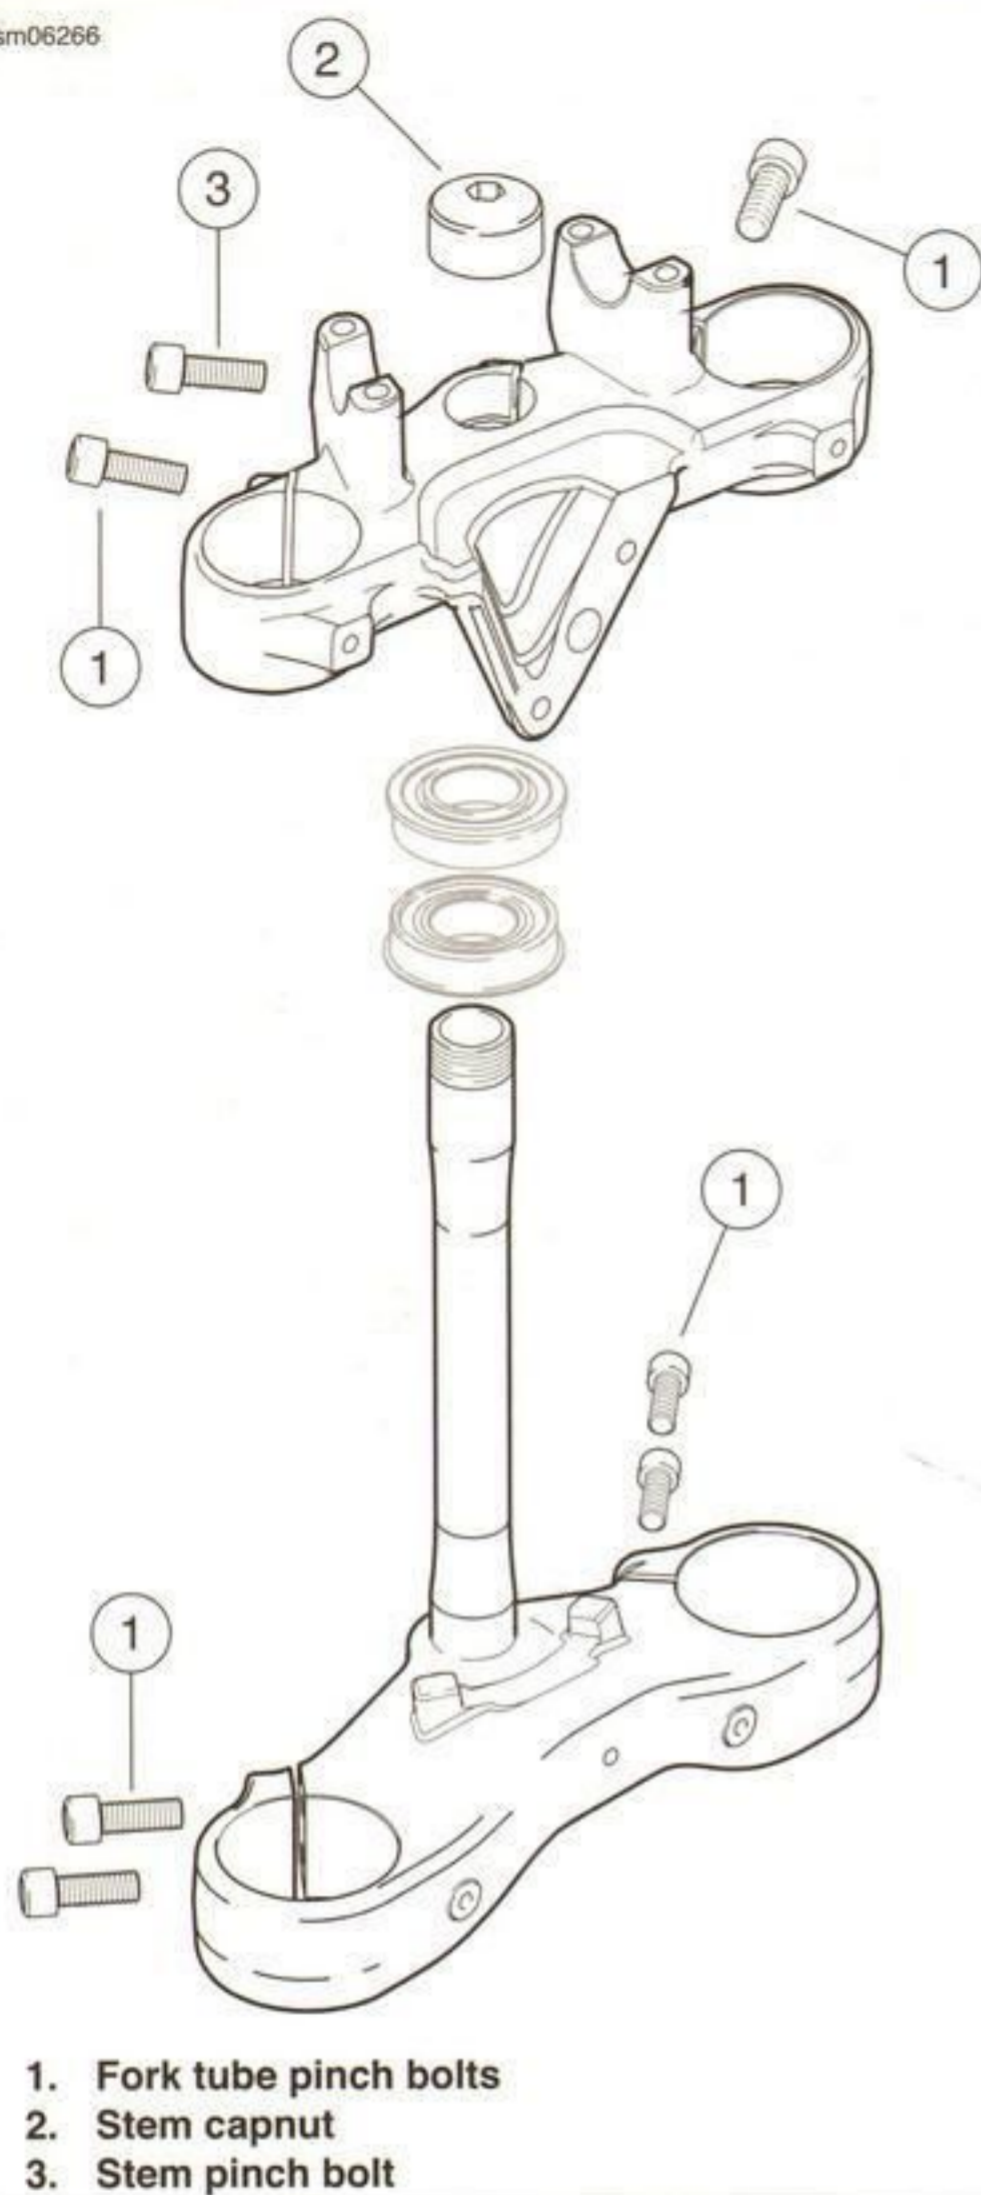

Figure 2-97. Fork Clamp Steering Stem Assembly: 1125CR
3. See Figure 2-97. Remove the steering stem pinch fastener (3).
4. Hold or brace the lower fork clamp and remove steering stem capnut (2).